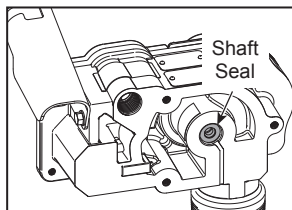

Figure 23
4. Remove the motor shaft seal by prying out with a small screwdriver (see Figure 23).